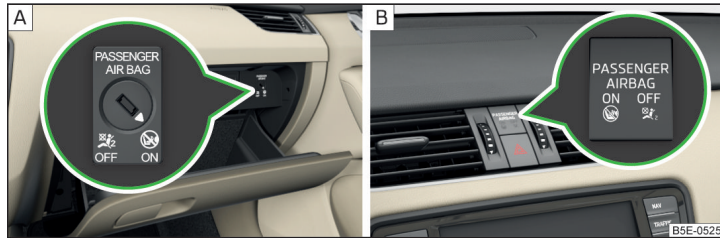

Fig. 24 Key-operated switch for the front passenger airbag / warning light for front passenger airbag
The front passenger airbag can be switched off with the key-operated switch » Fig. 24 on page 28 - **A**.
Positions of the key switch » Fig. 24 - A
**OFF** The front passenger airbag is deactivated - after the ignition is switched on, the indicator light **OFF**  » Fig. 24 illuminates